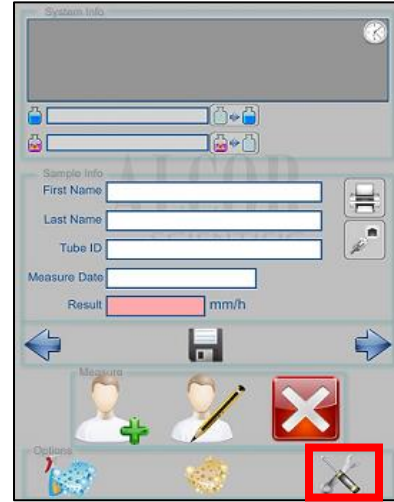

Figure 2
2. Once the three wash cycles have completed press the Service icon highlighted in red in Figure 2. Enter passcode 19912 then press the green check mark.